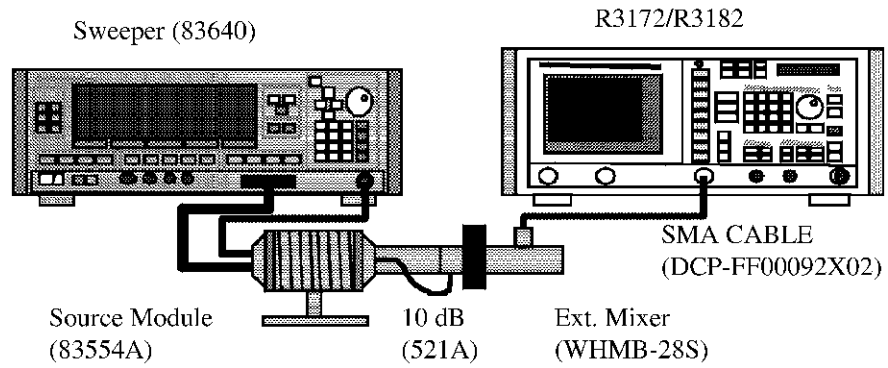

Figure 6-3 Setup of Frequency Response Test
10. Connect equipment as shown in Figure 6-3.